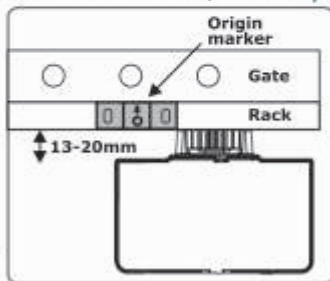

FIGURE 1
- Ensure that the sensor is as close as possible to the origin - ideally the gap should be approximately 13mm. Refer to Figure 1 on page 2
- Move the magnet closer to the origin sensor. Refer to Figure 1 on page 2